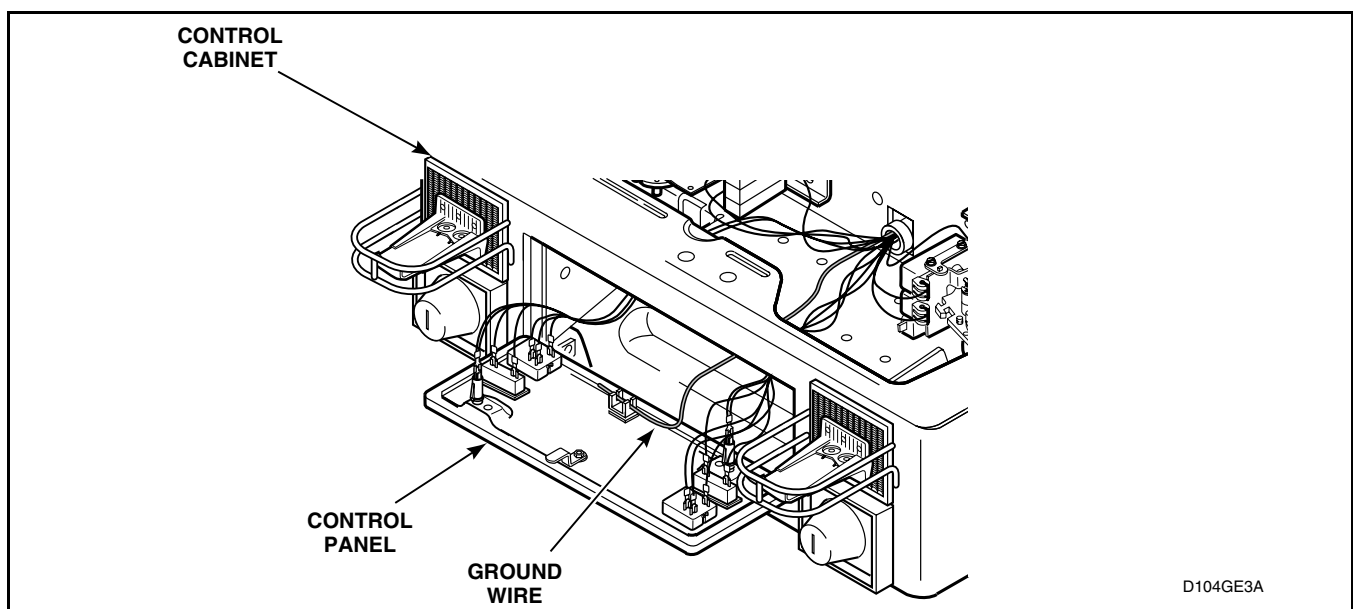

Figure 5
- Disconnect all wires from the control panel components; then remove ground clip and screw holding ground wire to control cabinet and control panel. Refer to *Figure 5*.